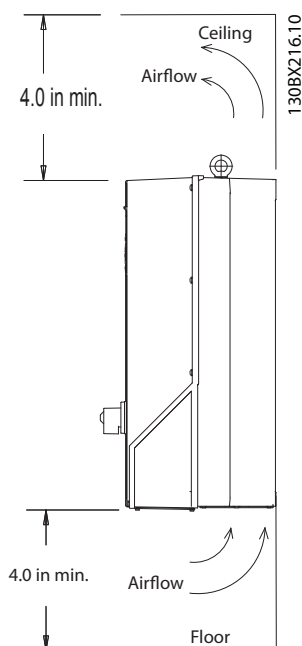

Figure 3.5 Cooling Airflow
- Top and bottom clearance is required for cooling (see *Figure 3.5*). Generally, 100 to 250 mm (4 to 10 inches) minimum clearance is required, depending upon the hp (kW) of the unit. See the mechanical drawing shipped with the unit for specific requirements.